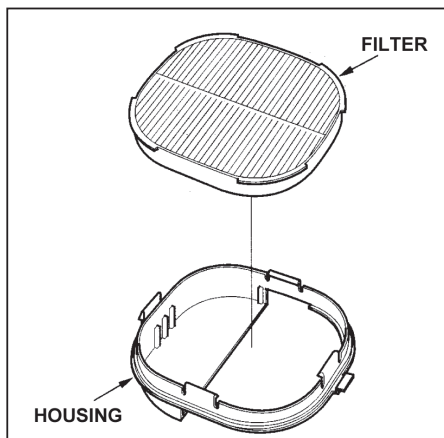

Fig. 2
4. Remove the CAF element from the filter housing. The original CAF element can be discarded. Then install the replacement CAF element into the filter housing. (See Fig. 2)